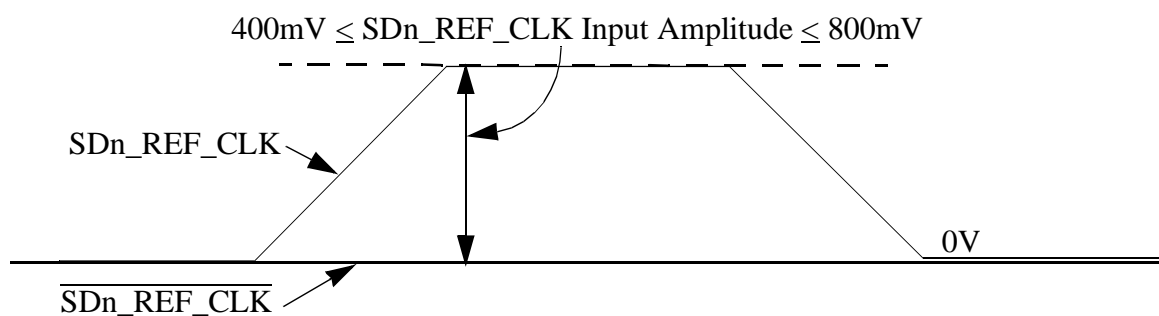

Figure 48. Single-Ended Reference Clock Input DC Requirements
- The SDn\_REF\_CLK input average voltage must be between 200 and 400 mV. Figure 48 shows the SerDes reference clock input requirement for single-ended signaling mode.